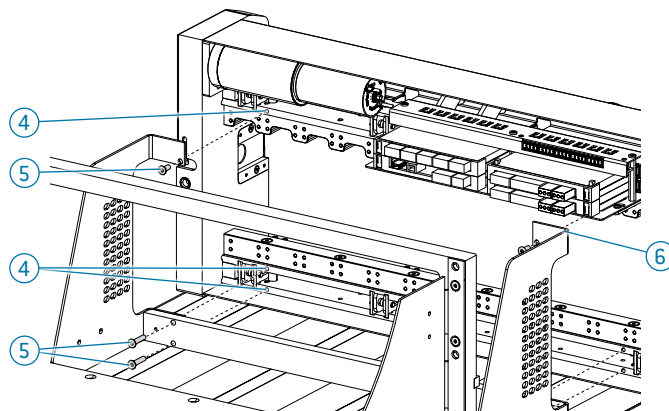

Fig. 86
- ▶ Pull out the slide mount (1).
- ▶ Guide the top left bracket (6) of the slide mount behind the controller (Fig. 86).
- ▶ Position the receiver (2) so its fixing points (4) align with the fixing points on the slide mount (3). Screw the slide mount onto the receiver fixing points.